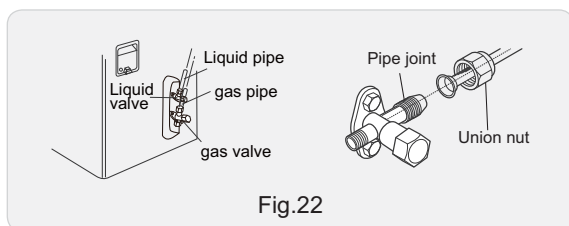

Fig.22
- (2) Remove the screw cap of valve and aim the pipe joint at the bellmouth of pipe. (As show in Fig.22)